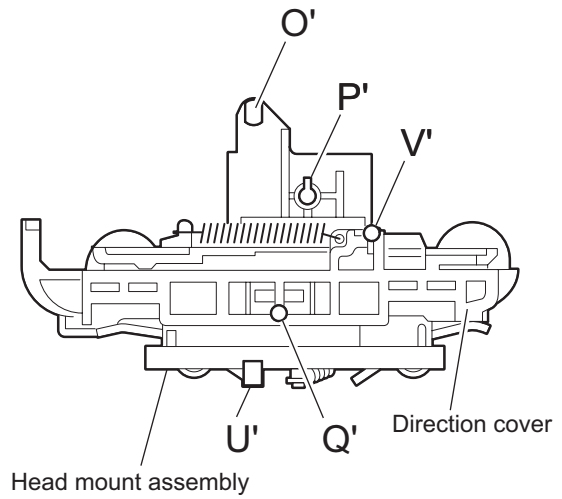

Fig.11
3.3.6 Reattaching the Play/ Record & Clear head (See Fig.11~13)
- (1) Reattaching the head mount assembly.
- b) Fit the bosses **O'**, **P'**, **Q'**, **U'** and **V'** on the head mount assembly to the holes **P** and **V**, the slots **O**, **U** and **Q** of the mechanism sub assembly (See Fig.11 to 13).